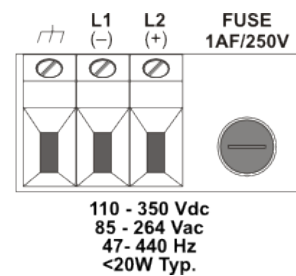

Figure 2.3: High Voltage Power Inlet
**Option 03** inlet supply includes terminals with an inlet range of 86 to 264 Vac, 50 to 60 Hz and 110 to 350 Vdc and terminal power strip with surge withstand protect circuitry (illustrated in Figure 2.3)